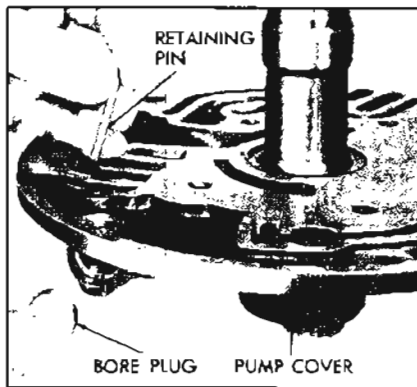

Figure 5-594
6. Install the pressure regulator valve bore plug and retaining pin into opposite end of bore. See Figure 5-594.